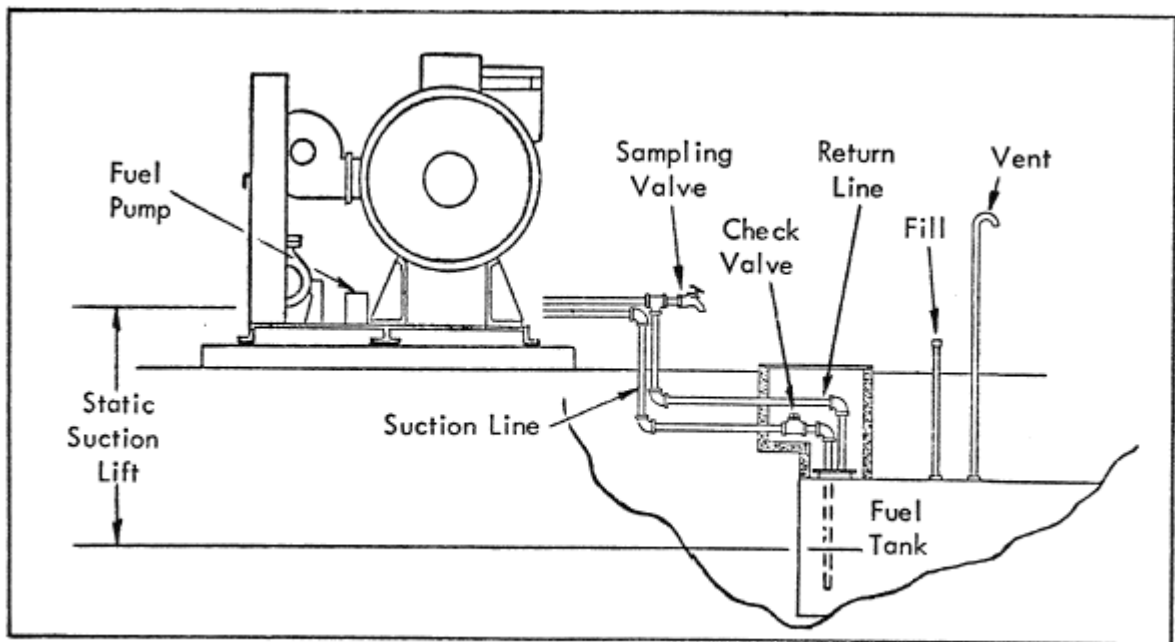

Figure 6, Underground Fuel Tank Installation
8.1.4 Install the fuel tank outside if possible (underground is preferred) and as near to the heater as codes permit. Many local codes designate particular locations. Keep suction lines as short and as free of fittings as possible. (See Figure 6)
8.1.11 Place a sampling tee and valve in the fuel return line and install a vent pipe in the fuel supply tank. See Figures 6 and 7. Also the typical heater installation drawing, Figure 15.